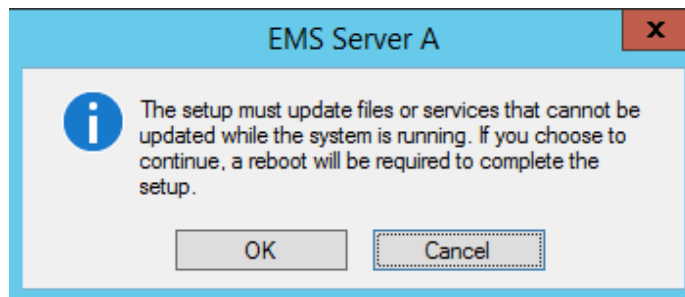

Figure 196
- If the **EMSServer** information dialog box is displayed, see Figure 196 below: